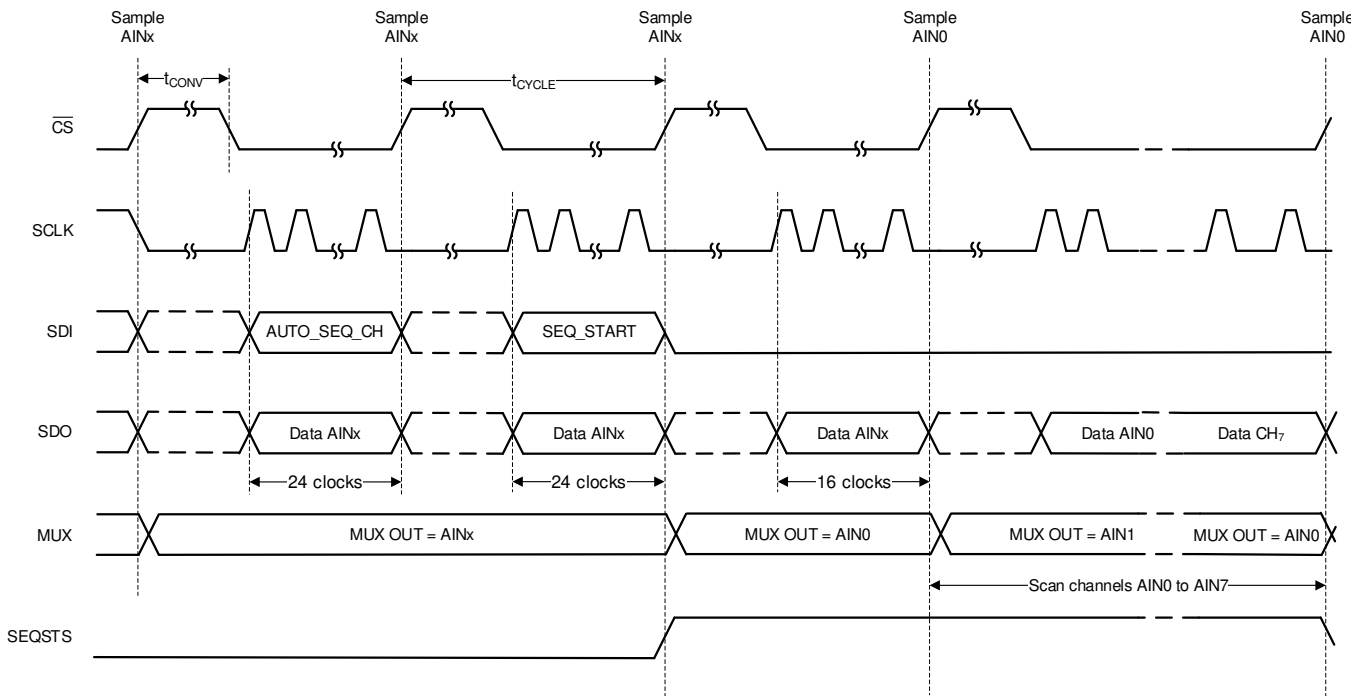
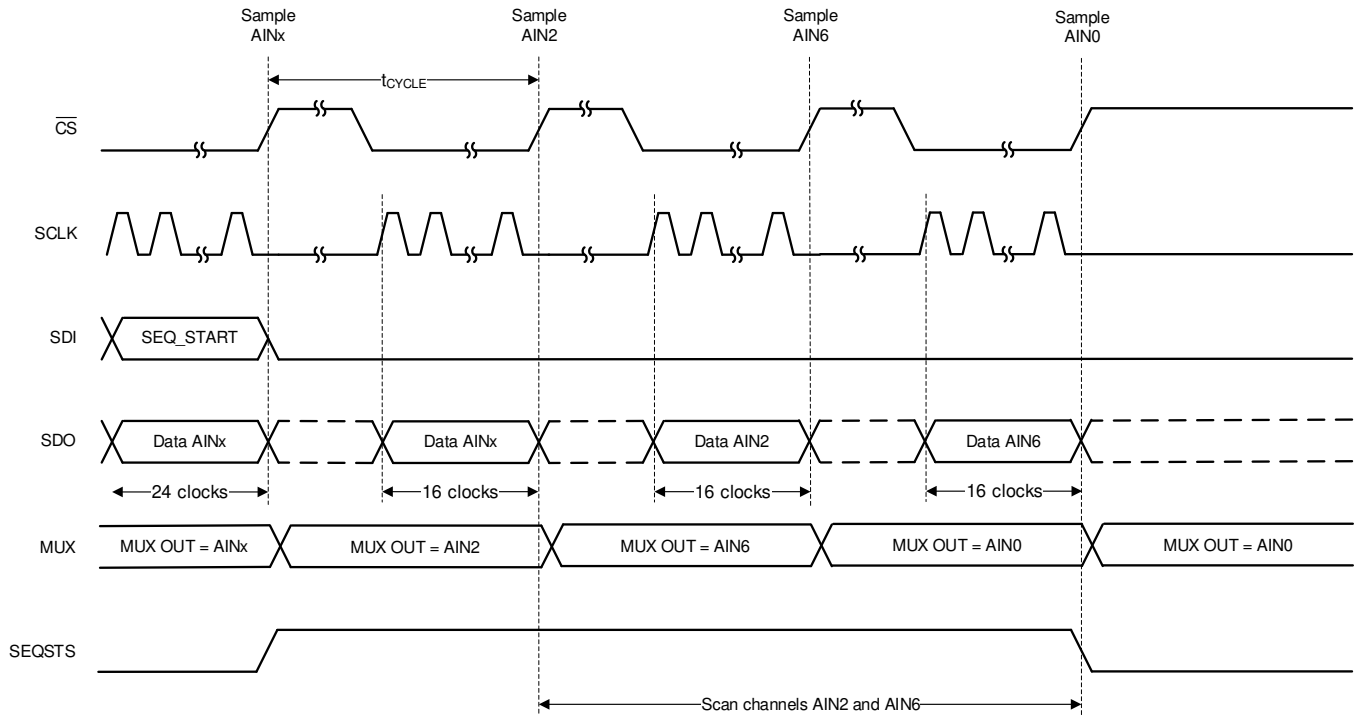

图 46. Starting a Sequence in Auto Sequence Mode
图 47. Example: Scanning Channels 2 and 6 in Auto Sequence Mode
In auto sequence mode, the internal channel sequencer can selectively scan channels from AIN0 through AIN7 in ascending order. To select auto sequence mode, configure SEQ_MODE to 10b in the `DEVICE_CFG` register using a 3-byte register access. One or more channels among AIN[7:0] can be enabled by configuring the `AUTO_SEQ_CFG1` register. By default all analog input channels are enabled. After enabling the desired channels, the sequence can be started by setting SEQ_START to 1b. The ADC auto-increments through the enabled channels after every \overline{CS} rising edge. When SEQ_START is set to 1b, the SDO-1/SEQSTS pin is at logic 1 as shown in 图 46 until the last channel conversion frame is complete. After the last enabled channel conversion is complete, channel AIN0 is selected and SDO-1/SEQSTS is in a high-impedance state.
As an example, 图 47 depicts a timing diagram for when the device is scanning AIN2 and AIN6 in auto sequence mode. When AIN6 is converted, SDO-1/SEQSTS is Hi-Z and AIN0 is selected as the active channel. At the end of sequence, if more conversion frames are launched the device returns valid data corresponding to AIN0.
- Configure the `AUTO_SEQ_CFG1` register. In 图 47, `AUTO_SEQ_CFG1 = 0x44`.
- 配置 `AUTO_SEQ_CFG1` 寄存器。在图 47 中，`AUTO_SEQ_CFG1 = 0x44`。
After configuring the channel scanning order, start index, and stop index the scanning can be initiated by setting the SEQ_START bit to 1b. The ADC scans through the enabled channels after every CS rising edge as defined by the channel scanning order. When SEQ_START is set to 1b, the SDO-1/SEQSTS pin is pulled high until the last channel conversion frame is complete, as described in 图 46. As illustrated in 图 47, channel AIN0 is selected and SEQSTS/SDO-1 goes to Hi-Z after the last enabled channel conversion is complete.
As an example, 图 47 provides a timing diagram for when the channel configuration is set as in 表 5. When AIN6 is converted, SEQSTS/SDO-1 goes to Hi-Z and AIN0 is selected as the active channel. If more conversion frames are launched at the end of the sequence, the device returns valid data corresponding to AIN0.
- Configure the CCS_START_INDEX and the CCS_END_INDEX registers. In 图 47, CCS_START_INDEX = 0 and CCS_STOP_INDEX = 1.
- Configure the CCS_SEQ_LOOP register to 1 to indefinitely loop the sequence. In 图 47, the CCS_SEQ_LOOP register = 0b.